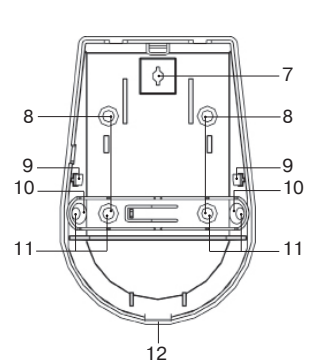

Figure 2 - «Pyrone-4RK» Design
The cover with a PCB is shown in Fig. 2 a).
The base (Fig. 2 b) comprises:
- drill the holes (Figure 2 b) in the base of the Detector case. They will be used for fastening the Detector;